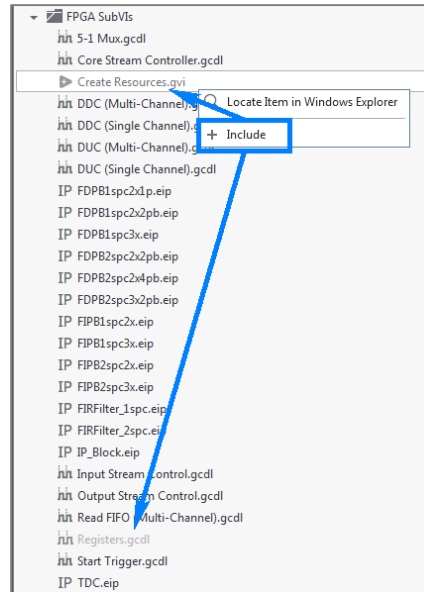

Figure 55: Files to Include
- c. In the “Project Files” view on the Navigation Pane of the original project, the new files will appear slightly greyed out. Right-click on each and select **Include** as shown in Figure 55.